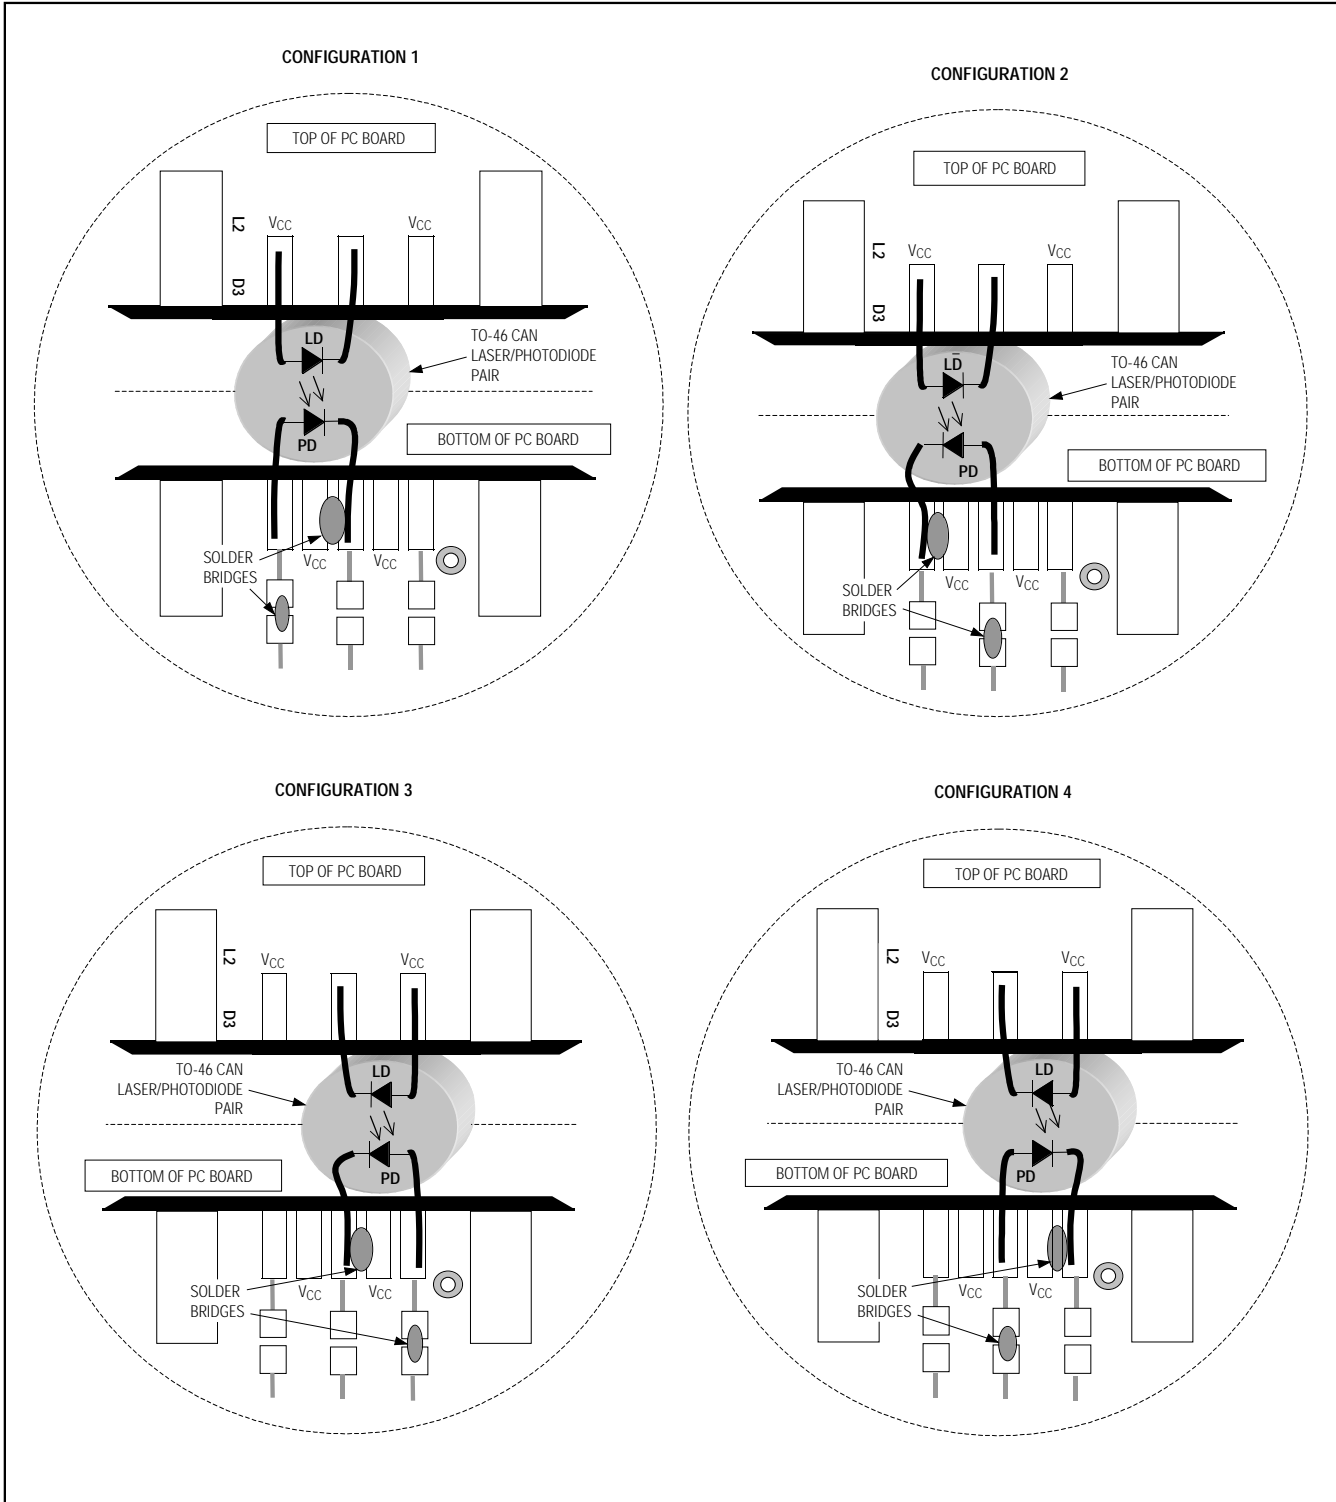

Figure 1. Attachment of Laser Diode/Monitor Diode to MAX3669 EV Kit
- 2) Connect a TO-style header laser and monitor diode (Figure 1) as follows: